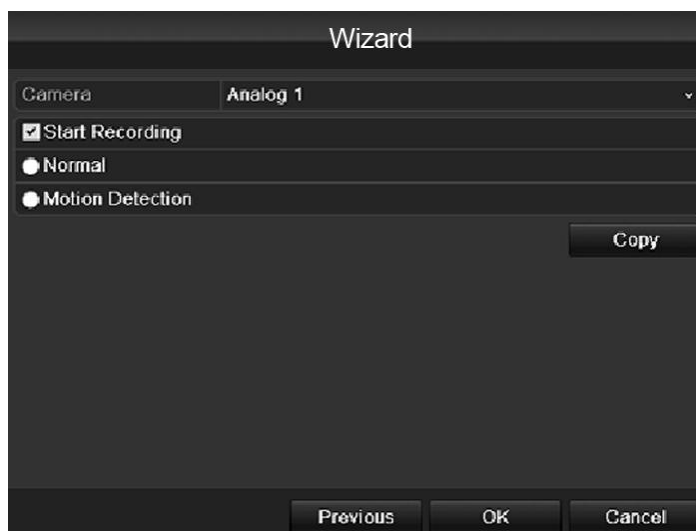

Figure 2.7 Record Settings
7. Click **Next** button to enter the **Record Settings** window, as shown in Figure 2.7.